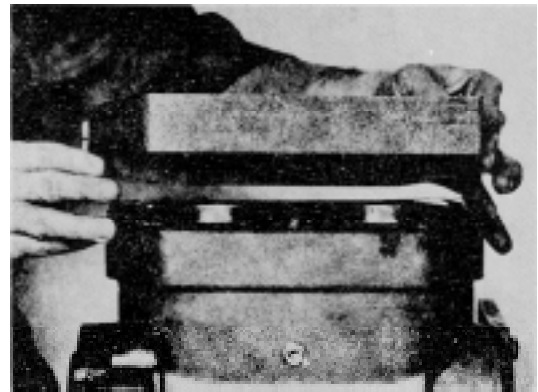

Figure 12B-47. Install Cylinder Head
12. Place the cylinder head cover on the cylinder head. Secure the cover and head with capscrews and lockwashers. Tighten the capscrews to 30 ft-lb (41 N.m), Figure 12B48. Tighten the capscrews in the sequence shown in Figure 12B-49.